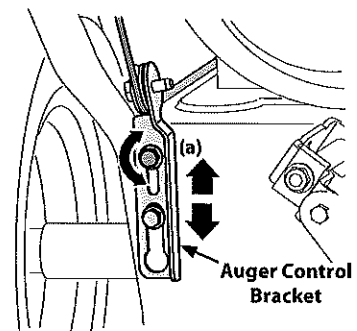

Figure 2-40
4. Allow auger to remain engaged for approximately ten (10) seconds before releasing auger control lever. Repeat this several times.
7. To readjust the auger control cable, loosen upper hex screw (a) unit auger control bracket. See Figure 2-40.
8. Position bracket upward to provide more slack (or downward to increase cable tension. See Figure 2-40.